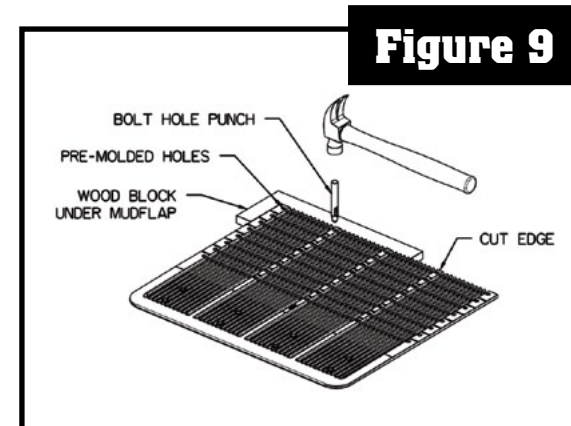

Figure 9
11. Punch the top row of pre-molded holes in the MUDFLAP using the included BOLT HOLE PUNCH. *Figure 9.*